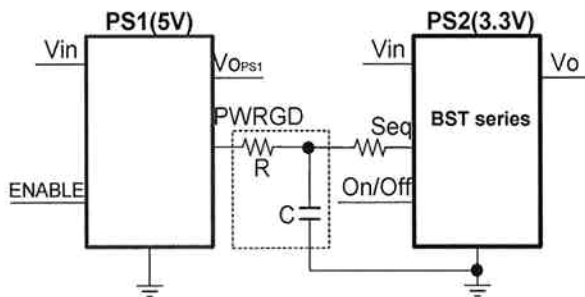
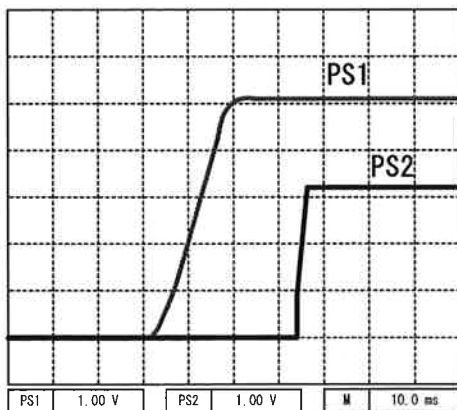
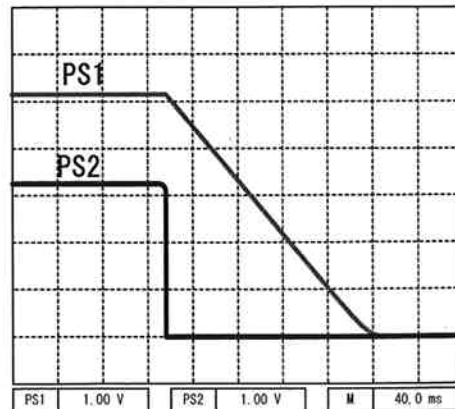

Figure 14 Example for Sequential operation connection
Figure 15 Sequential operation (Power-Up)
Figure 16 Sequential operation (Power-Down)
Sequential operation is shown in figure 14. By composing a circuit of PWRGD signal from PS1(5V) with components such as resistance-capacitor etc. inside the dotted line, the control voltage will be input to Seq pin of PS2(3.3V). Figure 15 and 16 show the wave form at operation. Figure 15 (Power-Up) shows a wave form of ; power-up the PS1(5V) first, and once the PS1(5V) reaches a stable voltage, PWRGD signal of PS1 will be output. Then time constant will be generated by the time constant circuit composed of components such as R-C etc. inside the dotted line, and will be input to Seq pin of PS2(3.3V) and control the PS2(3.3V). Figure 16 (Power-Down) shows the wave form of PS1 (5V) output voltage using the off signal which has been output at approximately 90% or below the rating voltage and when off-controlling the PS2(3.3V).
- Time constant circuit (C-R) inside the dotted line of figure 14 is a block diagram. In practical use, compose a circuit which suits the practical usage.